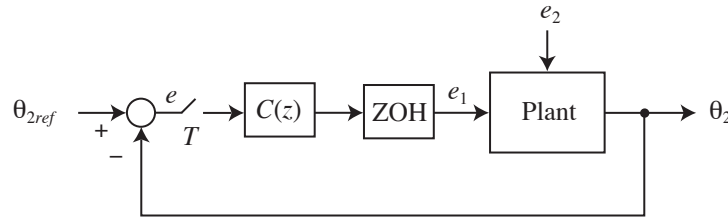

Figure 1. Closed-loop control system
1. In Figure 1, the Plant block represents the dynamics of the DC motors apparatus defined by the `dcmters` file. The controller transfer function is
- (a) Determine the Figure 1 system's gain and phase margins.
- (b) Determine the smallest positive gain for the sensor (larger than the nominal gain for the sensor, which is one) that generates the measurement of θ_2 for the Figure 1 system's feedback path such that the system will be unstable.
- (c) Use Matlab and Simulink or Python-Control to generate a plot that has superimposed on it the first 1 sec of the $\theta_1(t)$ and $\theta_2(t)$ responses of the Figure 1 system to a unit step θ_{2ref} input when the sensor that generates the measurement of θ_2 for the feedback path has the destabilizing gain you determined for part (b).
- (d) Suppose that the sensor that generates the measurement of θ_2 for the Figure 1 system's feedback path generates its measurement with a time delay. Determine the smallest such time delay (larger than the nominal time delay for the sensor, which is zero) such that Figure 1 system will be unstable.¹
- (e) Use Matlab and Simulink or Python-Control to generate a plot that has superimposed on it the first 1 sec of the $\theta_1(t)$ and $\theta_2(t)$ responses of the Figure 1 system to a unit step θ_{2ref} input when the sensor that generates the measurement of θ_2 for the system's feedback path generates its measurement with the time delay you determined for part (d).